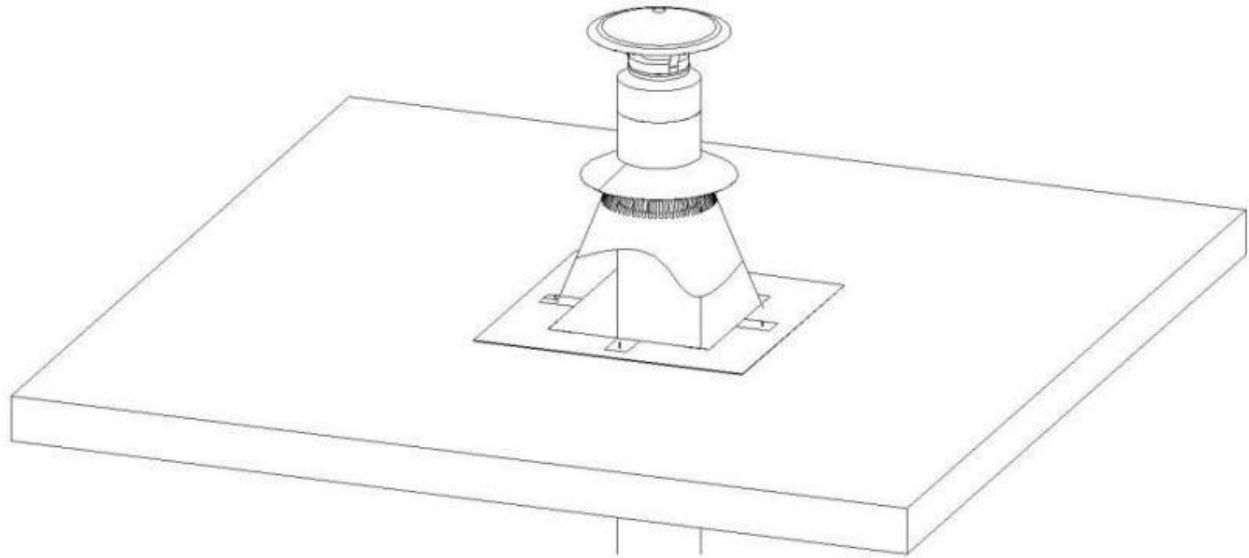

Fig 25
6. **Install Flat Roof Flashing:** It is recommended that you enclose exterior mounted chimneys below the roof line in geographical areas experiencing sustained low ambient temperatures to help reduce or limit condensation, creosote buildup and poor draft. If a chase enclosure has been constructed, you can use a Ventilated Flat Roof Flashing (Fig 25) to seal the chase.